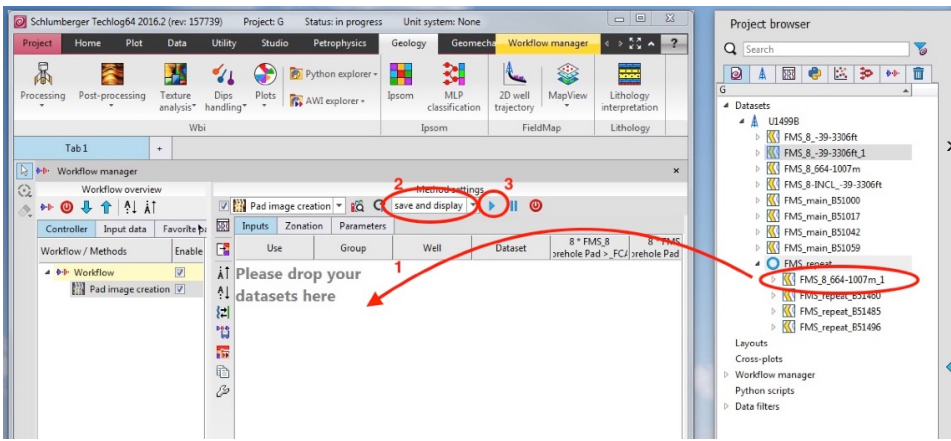
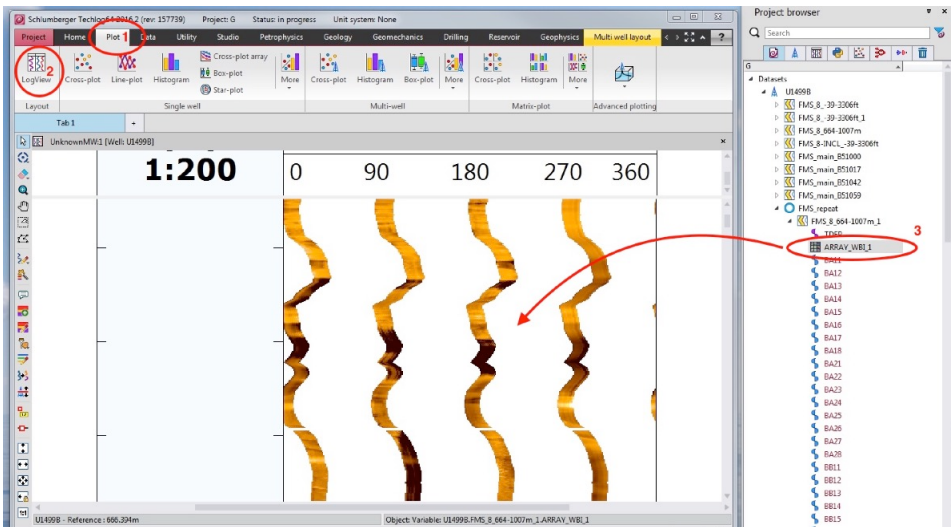

Figure 6: Workflow manager window showing the Pad image creation method.
Figure 8: FMS image plot in a Logview window.
3. In the new panel that appears in the main Techlog window (Fig. 6), there is a sign saying "Please drop your datasets here" - just drag your repeat pass dataset (i.e. FMS_8_664-1007m_1 in the example below).
- Back in the Workflow manager (Fig. 6), drag-and-drop the dataset into the main panel. Make sure that "save and display" is selected, and click on the blue arrow/play button. This should complete the processing and display the FMS image in a Logview window. This window may be cluttered with the various steps of the processing, so you can also open a new logview window from the 'Plot' menu, and drop your newly created FMS image in it (Fig. 8).